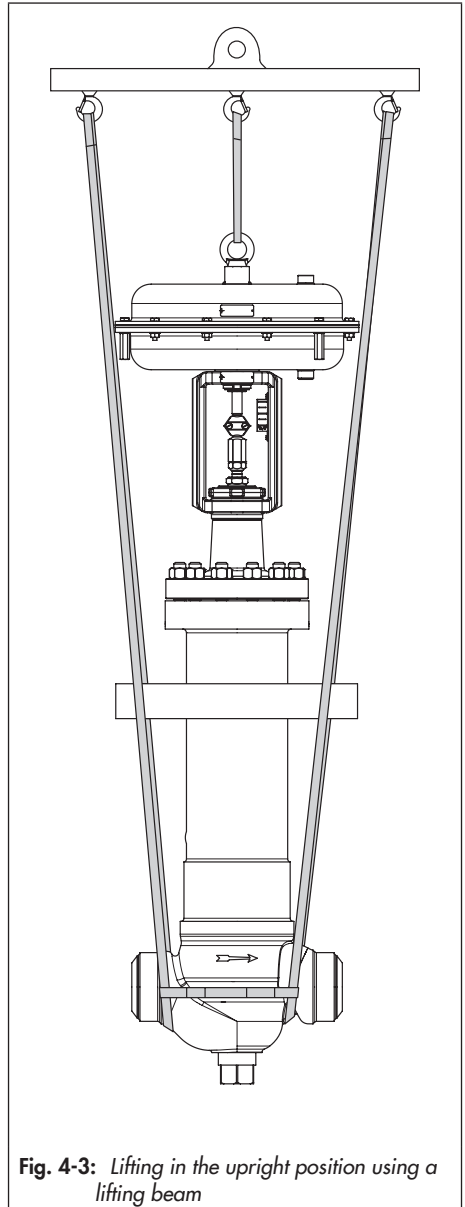

Fig. 4-3: *Lifting in the upright position using a lifting beam*
Optionally, the valve can be lifted in the upright position (see Fig. 4-3). On lifting the control valve in the upright position, make sure the following additional conditions are met:
1. Attach one sling to each welding end of the body and to the rigging equipment (e.g. hook) of the lifting beam (see Fig. 4-3).